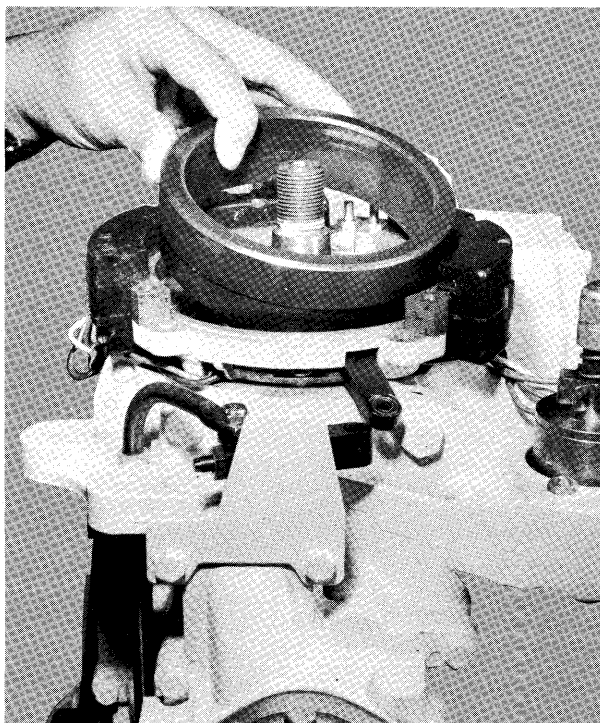

Figure 27 - Installing Timing Ring
- A. Apply grease (Special Tool T2961) to bearing cage. Lay timing ring in bearing cage with timing ring arm to port side as shown in figure 27.